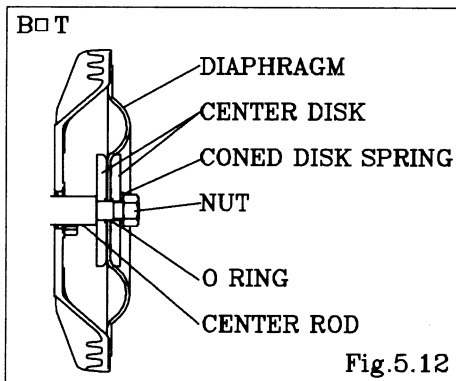

Fig.5.12
□□□ Keep the convex side to the outside (cf. Fig. 5.12).
□□□ Put the o'rings to both sides of the Diaphragm. (cf. Fig. 5.12)